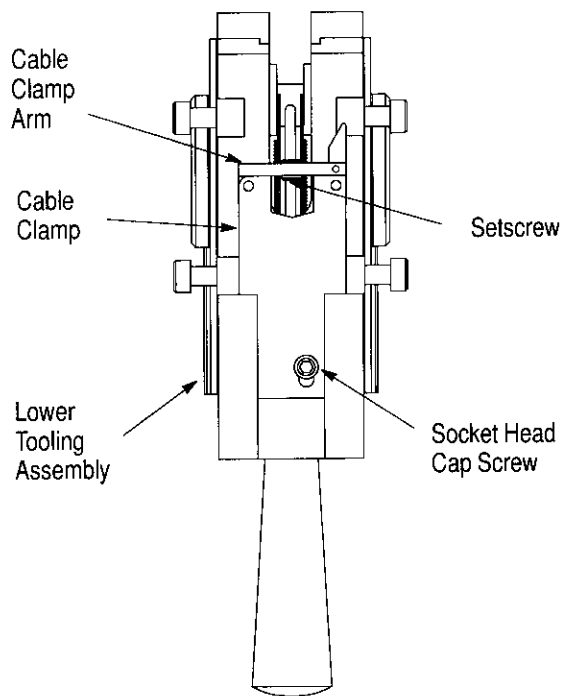

Figure 14
6. Adjust the cable clamp on the lower tooling assembly (see Figure 14) to the appropriate cable size by turning the setscrew on the clamp arm. Turn the setscrew in for smaller diameter cables and out for larger diameter cables. Proper adjustment is made when the cable is held tightly in the clamp.